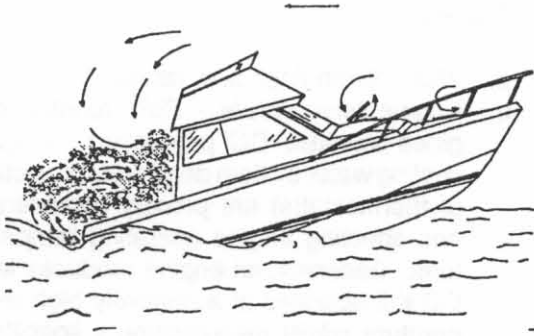

FIGURE 3: BACKDRAFTING - AIRFLOWS OVER BOAT AND BEHIND TRANSOM.
Backdrafting or the "station wagon effect" is caused by air movement over or around a boat creating a low pressure area of suction area around the stern which can increase CO level on the boat. Backdrafting can be affected by relative wind direction, boat speed, and boat trim angle. See Figure 3 Backdrafting - Airflows Over Boat and Behind Transom".
3. Canvas Configurations - Under various conditions, adding or removing canvas may raise or lower CO levels. See Figures 3, 4 & 5.